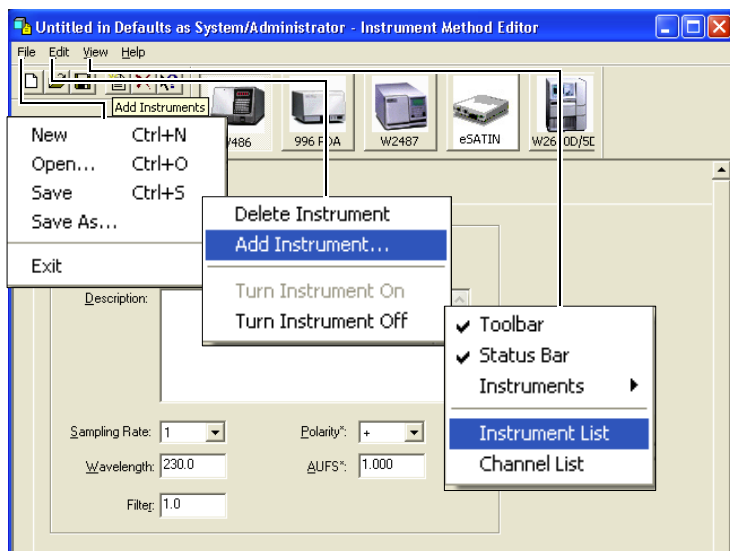

Figure 3-3 Instrument Method Editor
4. When an e-SAT/IN module is listed, you can modify the preferences using the Instrument Method Editor (Figure 3-3). When the e-SAT/IN module(s) is not listed, you can add a new instrument to designate the e-SAT/IN module as an active device.